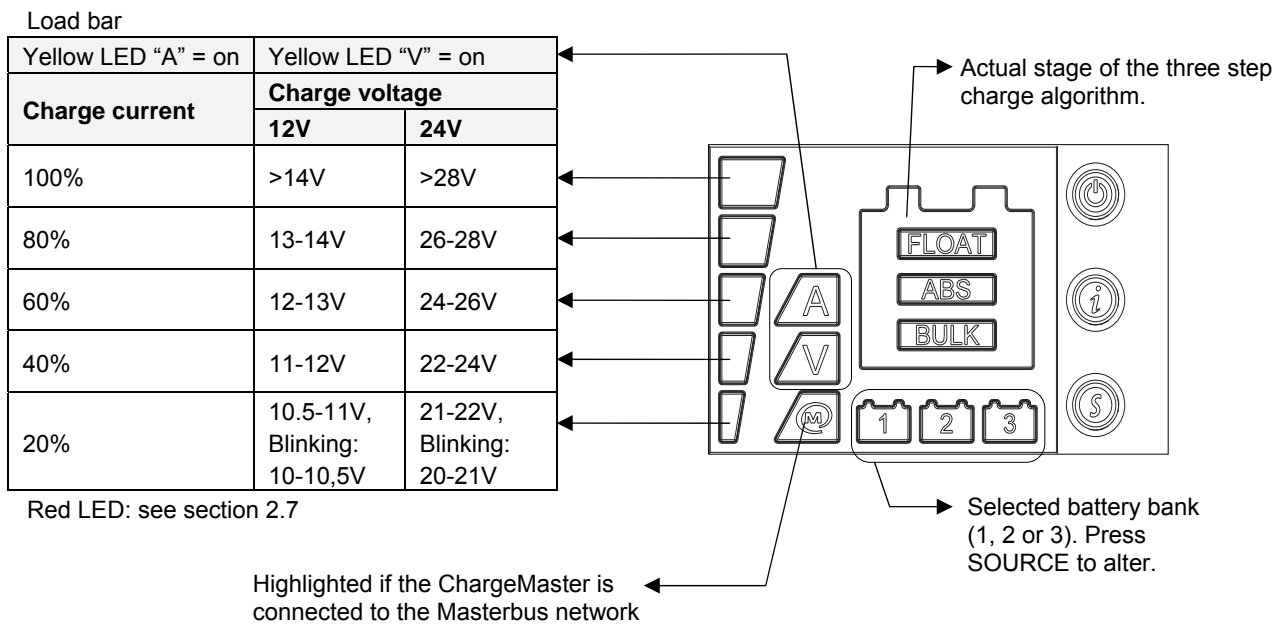

Figure 3: LED display
The ChargeMaster is equipped with a multicolour LED display. See Figure 3. Different LED colours and combinations have different meanings. Combination of the current display (A) with the load bar shows the percentage of maximum current, of the three Battery banks together. Combination of (V) with the load bar shows the actual charging voltage.